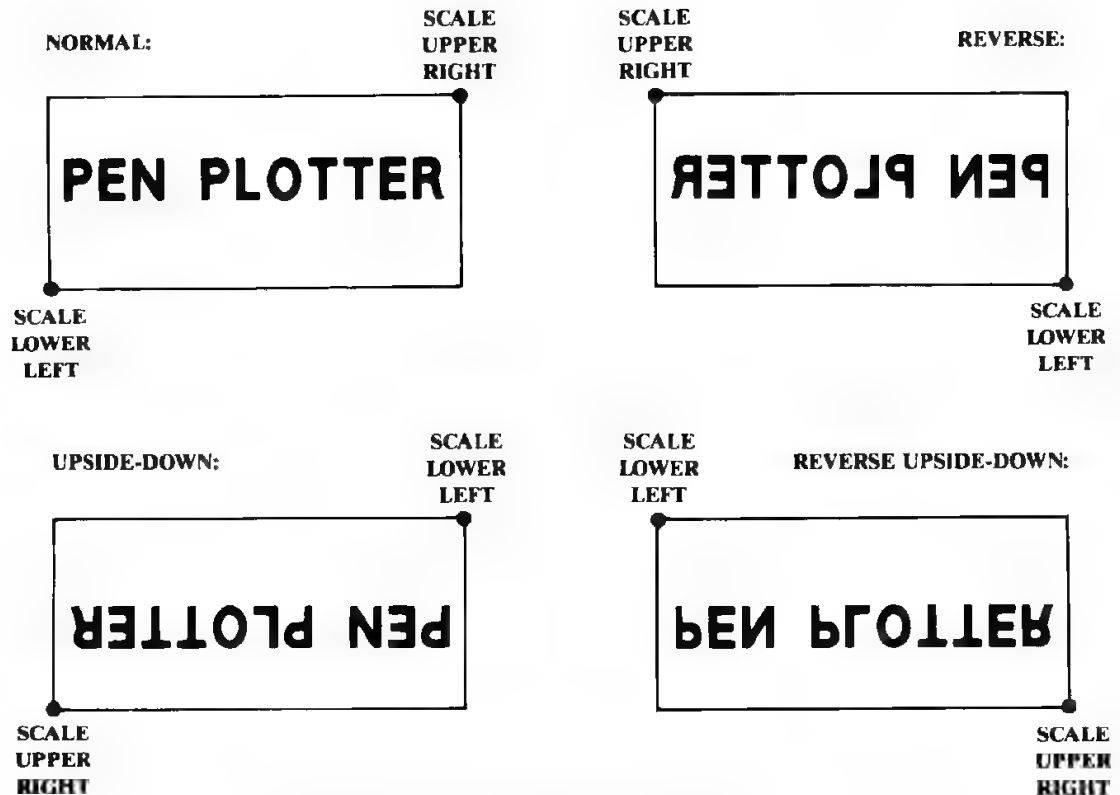

FIGURE 8-11. MIRROR OPTIONS
The mirror plot feature is produced with scaling points. This is done by altering the relative positions of the scale lower left and upper right points. Figure 8-11 shows how the scale lower left and upper right points are set in various combinations to produce normal, reverse, upside-down, and reverse upside-down plots (in all cases the window or clip lower left and upper right points are in their normal positions).
4. Press the up arrow or down arrow key until SCALE LL is displayed, then press the **ENTER** key. At the SCALE LL sub-menu, press the left arrow or right arrow key to display VIEW. Press the **ENTER** key to move to the present lower left scale point. Use the left arrow, right arrow, up arrow, or down arrow key to move to the desired scale lower left point as shown in Figure 8-11 for a normal, reverse, upside-down, or reverse upside-down plot. Press the **ENTER** key to select that point as the new scale lower left point.
5. Press the up arrow or down arrow key until SCALE UR is displayed, then press the **ENTER** key. At the SCALE UR sub-menu, press the left arrow or right arrow key to display VIEW. Press the **ENTER** key to move to the present upper right scale point. Use the left arrow, right arrow, up arrow, or down arrow key to move to the desired scale upper right point as shown in Figure 8-11 for a normal, reverse, upside-down, or reverse upside-down plot. Press the **ENTER** key to select that point as the new scale upper right point.